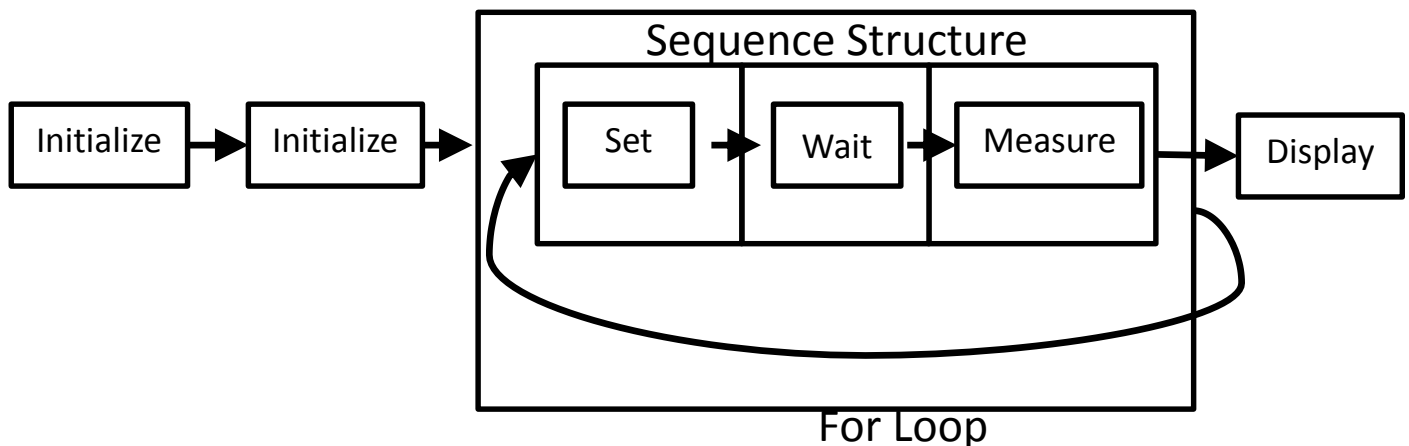

Figure 4. Program Layout
2. Figure 4 provides a schematic for the program layout. We will utilize four instrument VI's as sub VI's for our program. Two of these VI's will initialize the instruments. The third VI will set the voltage on the E3640A and the fourth will read the measured current from the 34401 multimeter.